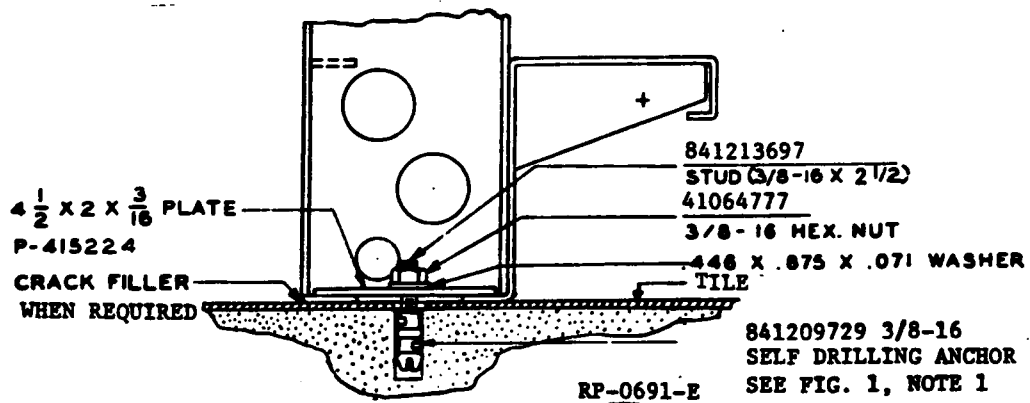

FIG. 7 FASTENING CABLE DUCT-TYPE RELAY RACK, HAVING SHEET METAL BASE
4.13 As stated herein, cable duct-type frames with detachable guard rails, when aligned in a single row, are rigidly fastened and properly spaced at the top by means of a junction pipe, but are not rigidly joined together at the uprights. Therefore, after the frame has been spaced on the floor with regard to the indentation marks at the bases of the frames, one hold-down bolt, centrally located in the base, as shown in Figure 7, should be used for each frame in a line.
(BSP 800-614-154 Fig. 7)